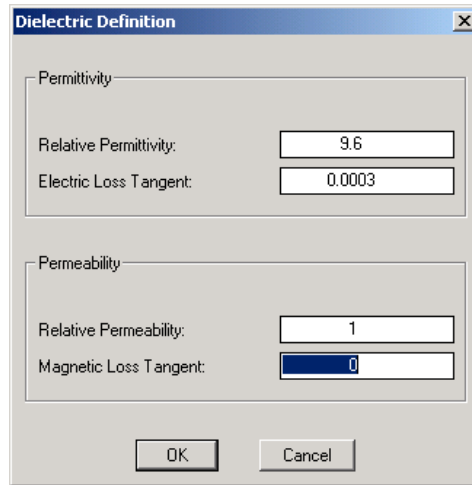

Figure 35 Values for Defining Alumina as a Dielectric
- 8 Use the typical values for alumina shown in Figure 35.